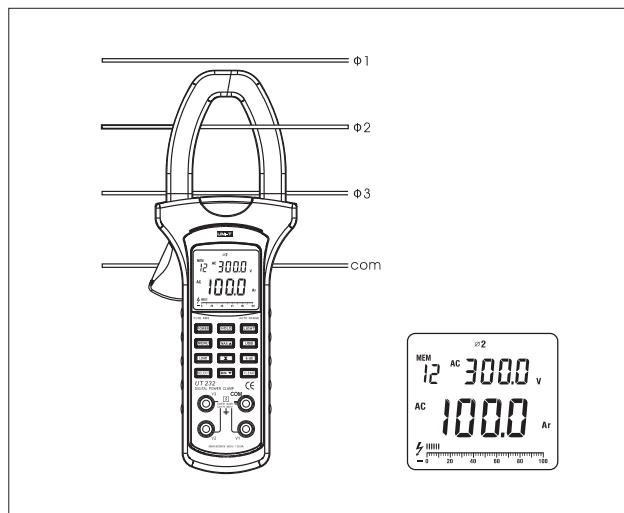

Figure 5
B. AC Current (main display) + AC Voltage (secondary display) Measurement (see figure 5)